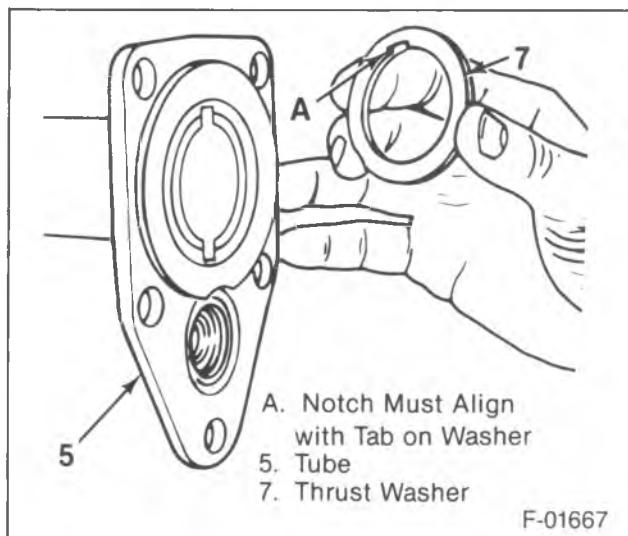
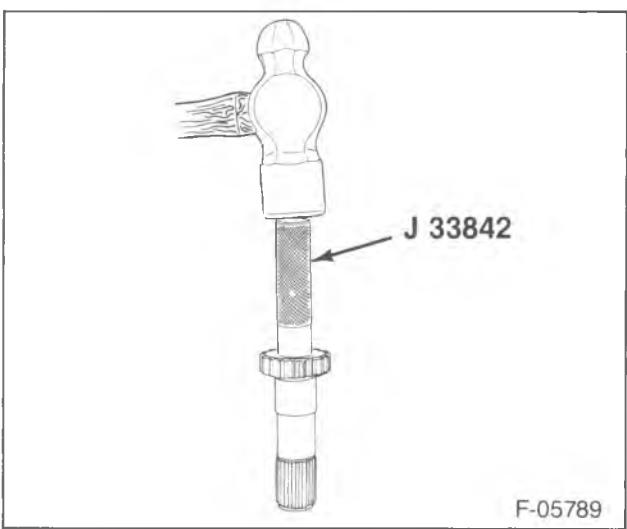

Figure 34—Installing the Thrust Washer
Figure 33—Installing the Differential Pilot Bearing
10. Differential pilot bearing (21). Use J 33842 (figure 33).
11. Washer (24) to the output shaft (23).
13. Sleeve (22).
14. Thrust washer (20). Use grease to hold it in place.
15. Spring (16) and shift shaft and fork (17).
16. Thrust washer (7). Use grease to hold it in place. Align the notch and tab (figure 34).
17. Shaft (1) to the tube (5).
18. Carrier connector (9) with retainer (8). Tap into place.
19. Tube assembly (5) to the carrier.
20. Two upper bolts (6). Leave finger tight.
21. Shift cable housing (11) and remaining bolts (6).